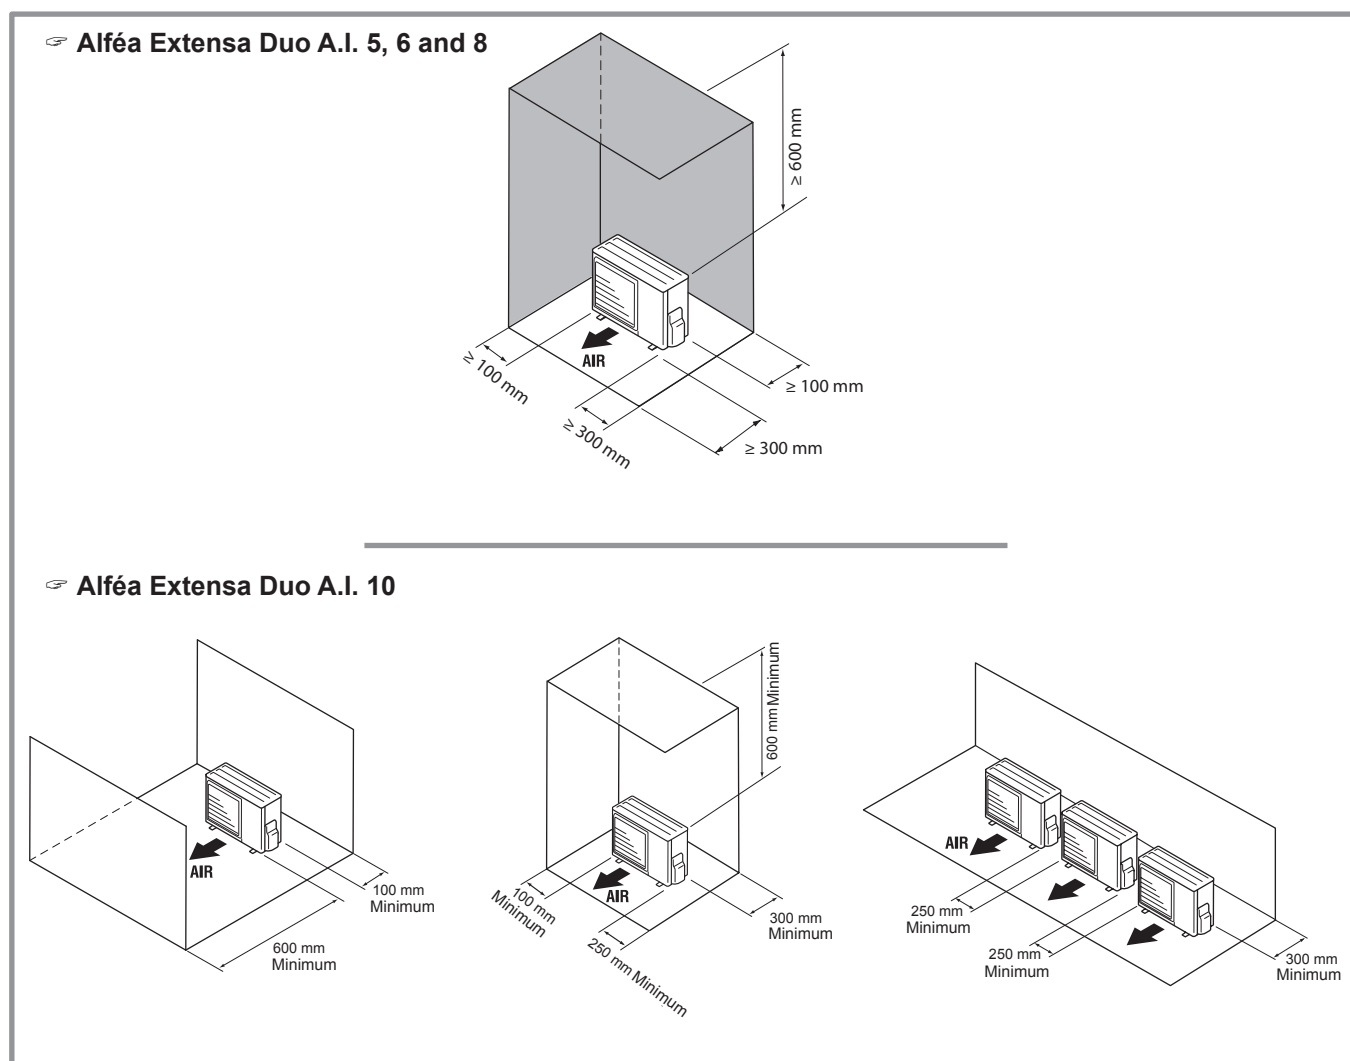

figure 13 - Minimum installation clearances around the outdoor unit
- ☞ **The outdoor unit must only be installed outside. If a shelter is required, it must have broad openings on all 4 sides and installation clearances must be observed (figure 13).**
- The unit must be easily accessible for future installation and maintenance work (figure 13).
- Nothing should obstruct the air circulation through the evaporator and out from the fan (figure 13).